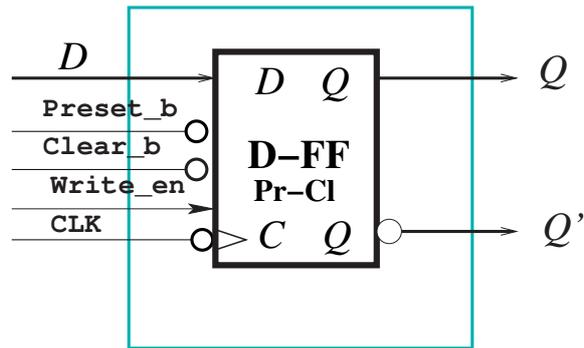

Figure 7: D-Flip Flop with Load, Preset and Clear Capabilities
Extend the capabilities of the base D-FF you implemented in previous sections with the *Load*, *Preset* and *Clear* capability, as shown in Fig. 7. Let’s call the extended D-FF-PC. The `Write_en` line is set (to 1) only when we want to allow the D-FF-PC to sample and store its current input D in its storage (Q , and Q'). The actual storing of the current input takes place when the clock signal `CLK` makes the HIGH to LOW transition. The `Clear_b` signal is set to “active low” (ie, 0) value when we want to set the contents of the D-FF-PC to 0 ($Q = 0$, and $Q' = 1$). In a similar fashion, the `Preset_b` is set to “active low” (0) signal value when we want to preset the D-FF-PC to 1 ($Q = 1$, and $Q' = 0$). Both `Clear_b` and `Preset_b` are *asynchronous* to and have precedence over the current clock signal `CLK`.